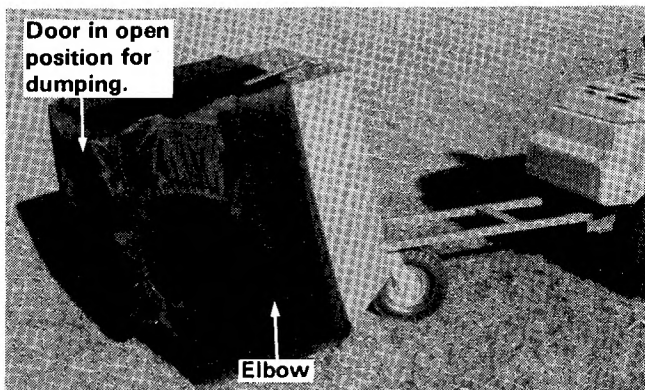

Figure 20.
- d. Push the latch handle to unlock the cart's box and lift the front-end of the box to dump the load (figure 20).